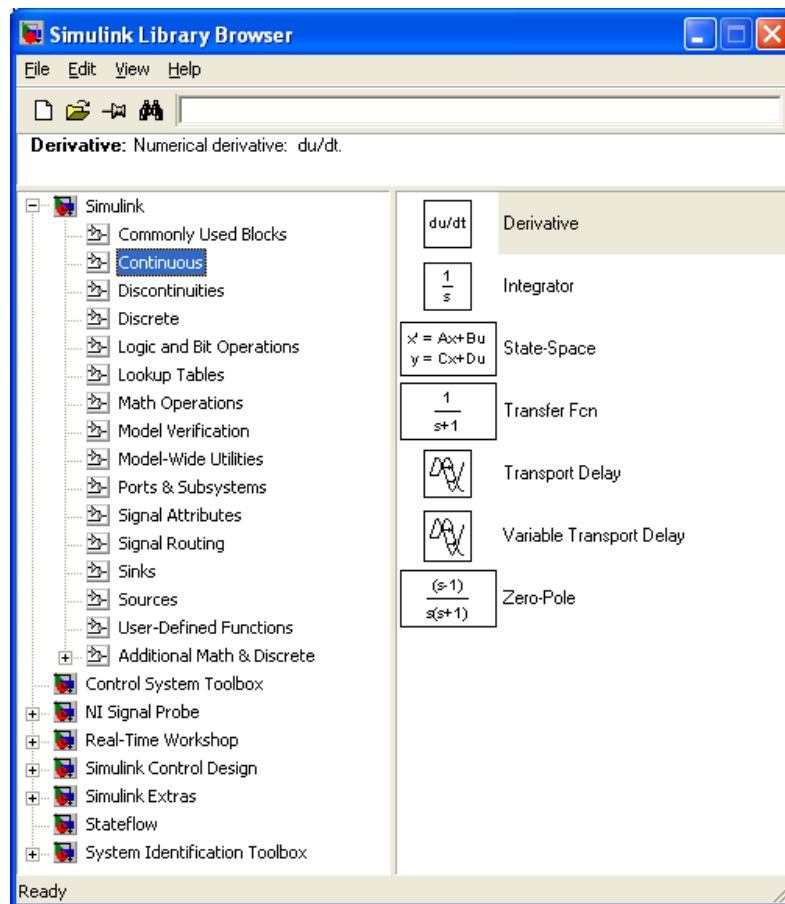

Figure 1.1: Simulink Library Browser
The **Simulink Library Browser** window is thereby opened, see Figure 1.1.
- *Block libraries:* The block libraries are listed to the left. Clicking on a library opens the blocks in that library. For example, in Figure 1.1 the **Continuous** library is opened.
Note: If you install addition toolkits to Matlab and/or Simulink, new libraries are intalled, and they appear at the lower part of the library list. In Figure 1.1 the Control Design Toolkit and Stateflow libraries are examples of such additional libraries.